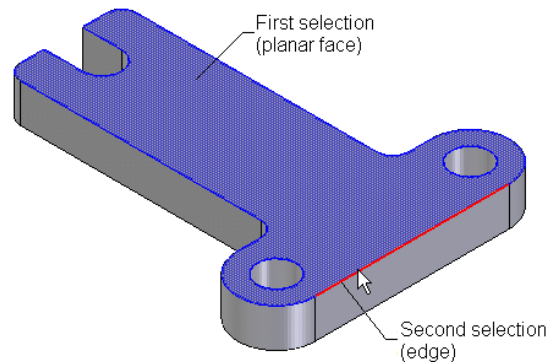

Figure 5-71 Making selections to create an angled plane
3. Select the top face of the base feature, as shown in Figure 5-71; the face is highlighted and you are prompted to click on the face, edge, or plane to be the base of the profile plane. You need to select an edge through which the angled plane will pass. In this case, the right edge of the top face of the base feature will be selected as the edge through which the plane will pass.